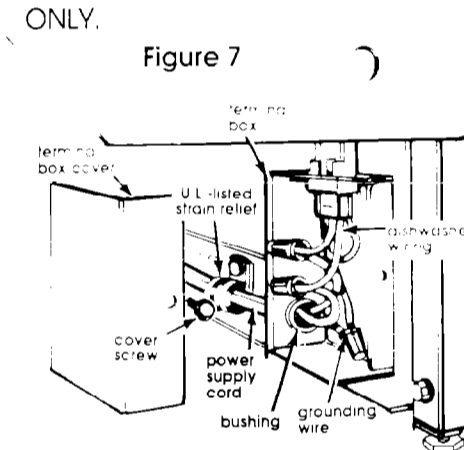

Figure 7
3. Remove twist-on wire connectors from the power cord wires and grounding wires. (See Figure 7.)